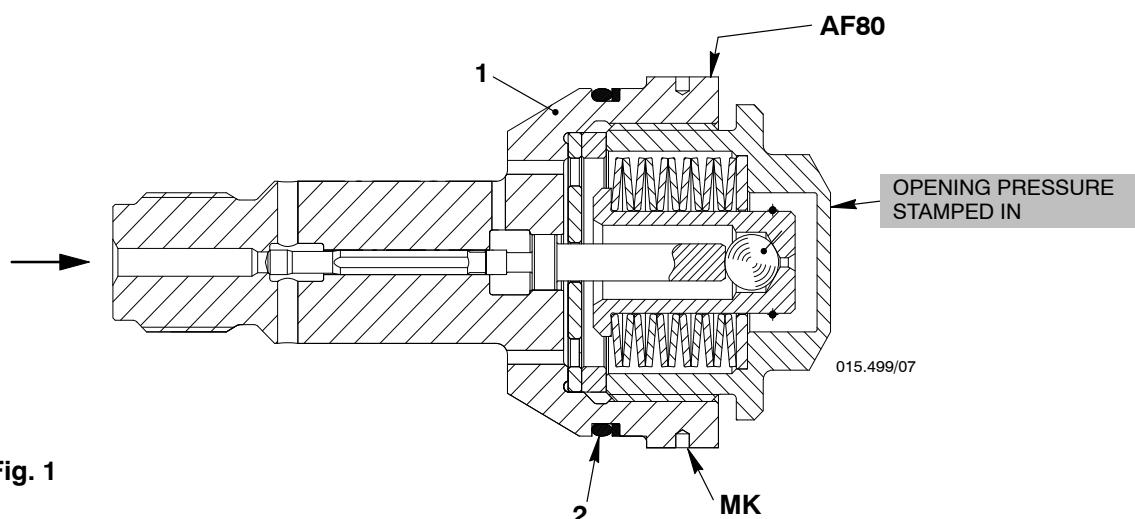

Fig. 1
- 7) Attach the fuel return pipe (5, Fig. 1) to the PCV (1).
- 8) Tighten the angle union (7).
- 9) Connect the electrical connection to the solenoid valve (2).
- 1) Use a spanner AF80 on housing (1, Fig. 1) to remove the safety valve from the valve block.